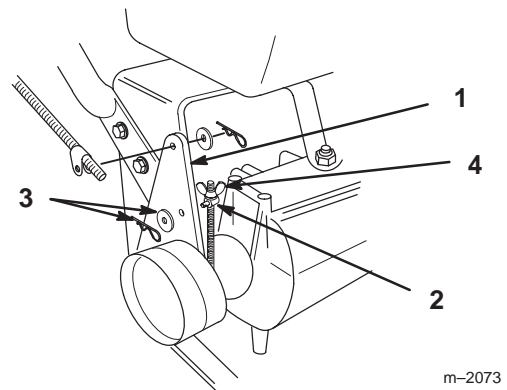

Figure 14
6. If brake adjustment is required, remove hairpin cotter and washer securing brake rod fitting to idler bracket (Fig. 14).
7. Adjust wing nut up or down on brake rod and secure fitting to idler bracket (Fig. 14). Check adjustment and readjust if necessary.